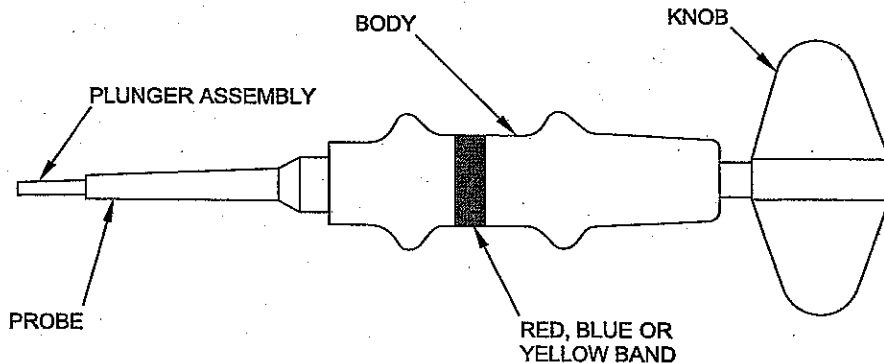

Fig 1 Unwired contact removal tool
- 3.1 The tool (Fig 1) consists of a body/plunger assembly and three removable plastic probes.